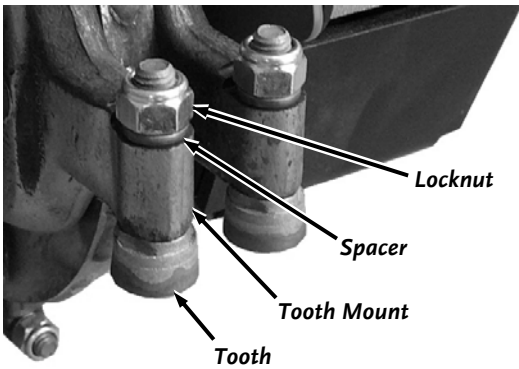

Figure 42
2. Remove the Locknut from the tooth threads (**Figure 42**).